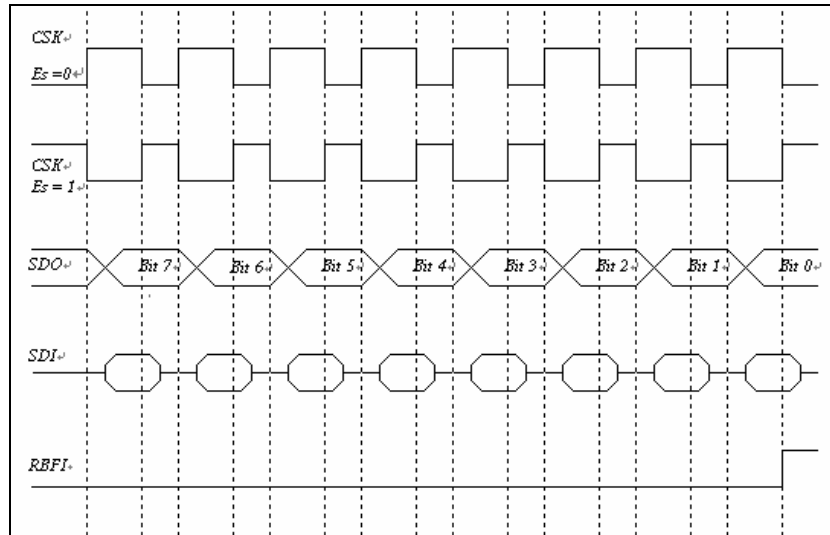
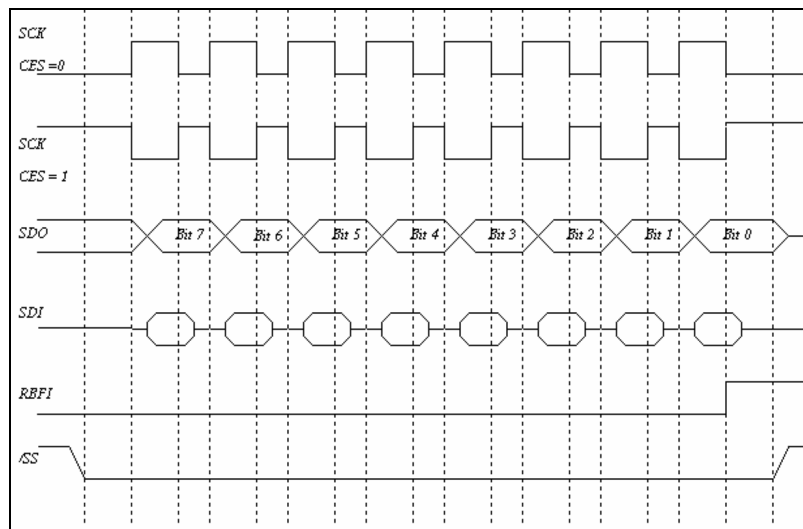

Figure 5-12 SPI Mode with /SS Disabled
Figure 5-13 SPI Mode with /SS Enabled
- Timing is shown in Figure 5-12 and 5-13.
- Timing is shown in Figure 5-12 and 5-13
- Timing is shown in Figure 5-12 and Figure 5-13.
The edge of SCK is selected by programming bit CES. The waveform shown in Figure 5-12 is applicable regardless whether the EM78P451S is in master or slave mode with /SS disabled. However, the waveform in Figure 5-13 can only be implemented in slave mode with /SS enabled.